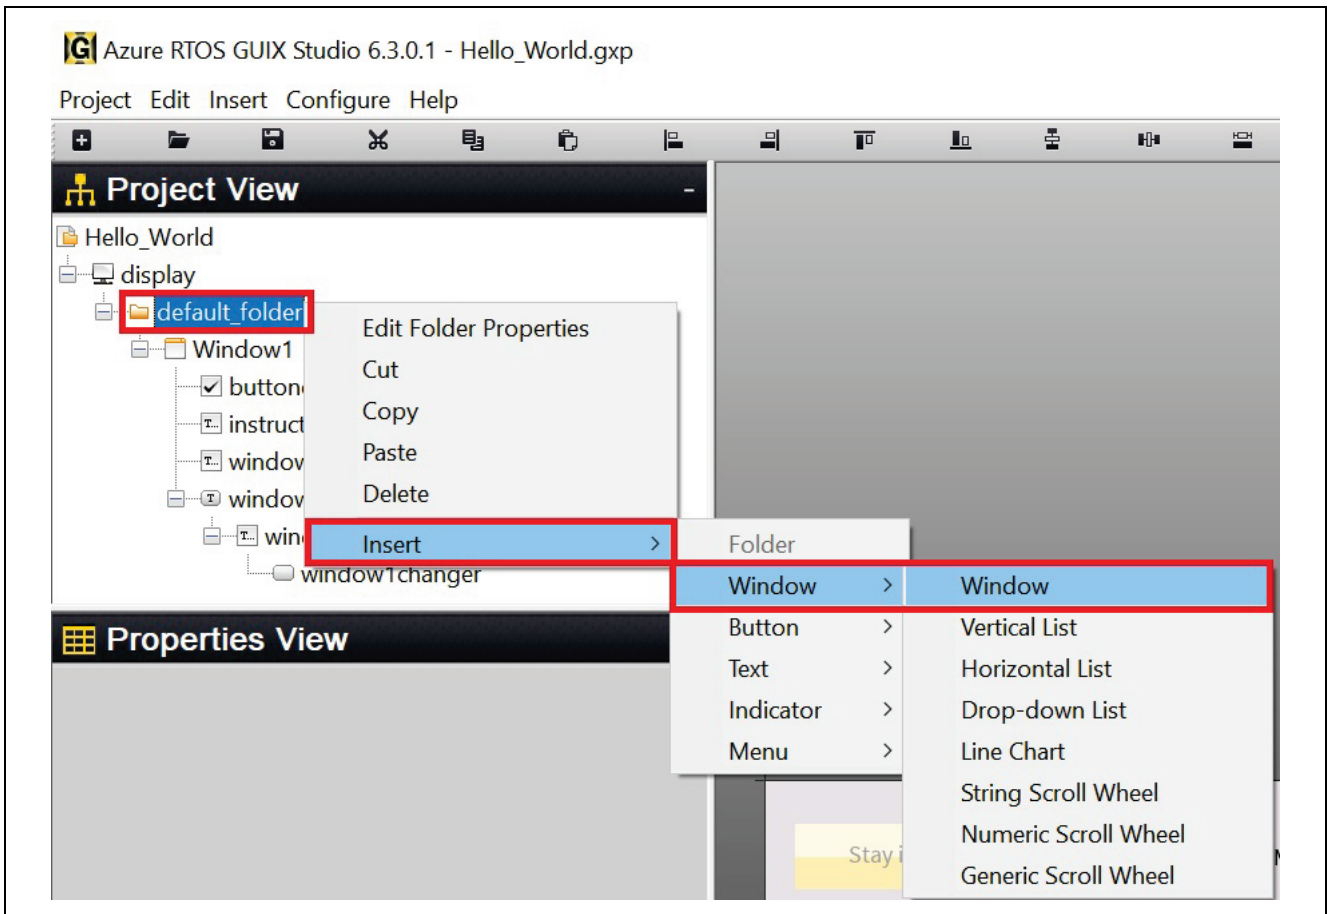

Figure 63. Insert Window2
23. Add another window to the GUIX Studio project. Right click on **default\_folder** in the **Project View** and click **Insert > Window > Window** as shown in **Figure 63**.